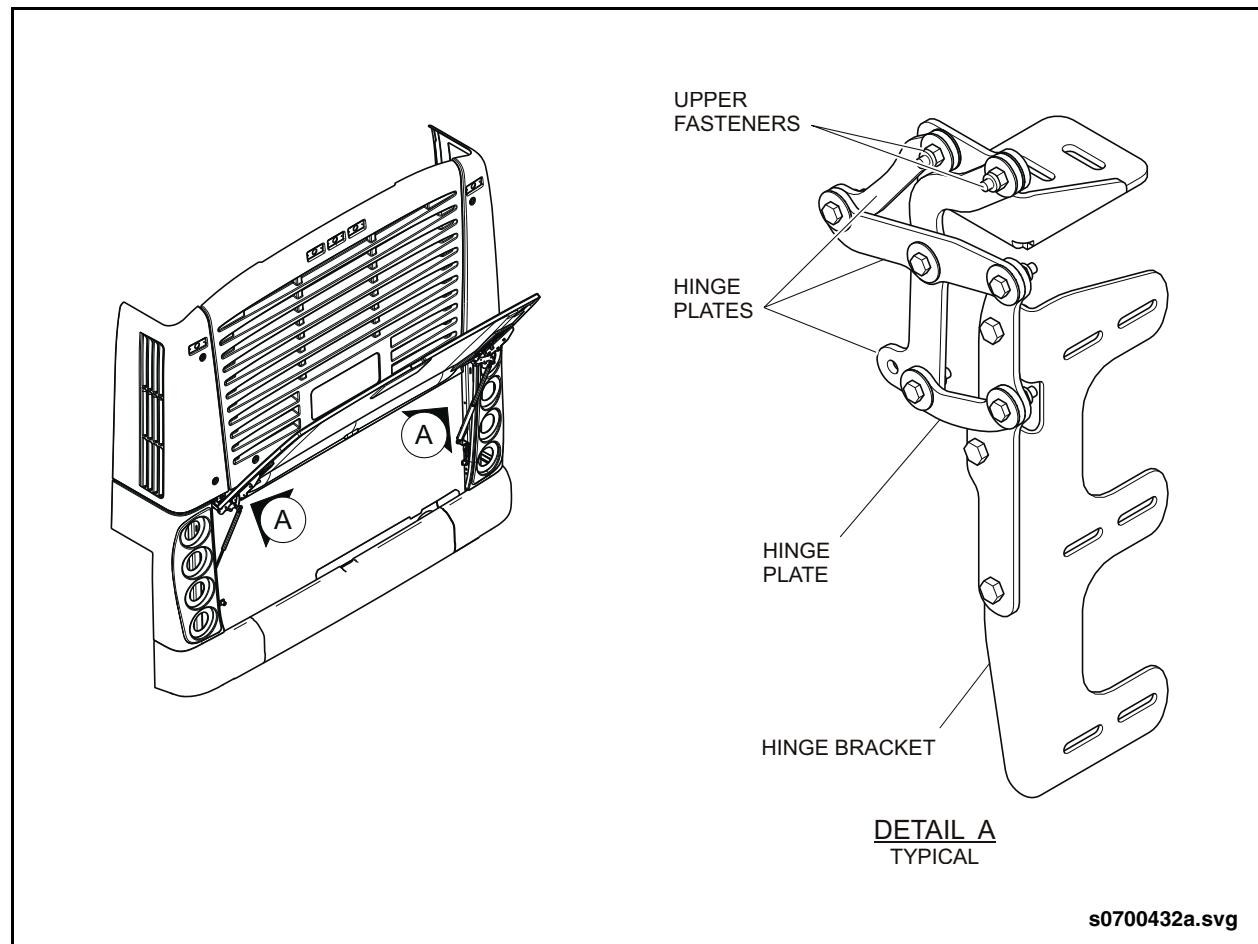

Fig. PM-39: Scissor Hinge Inspection
2. Inspect all pivot point fasteners to ensure they are in good condition and properly tightened. Pay particular attention to the uppermost fasteners for possible damage or looseness. See "Fig. PM-39: Scissor Hinge Inspection" on page 85. Replace any damaged fasteners.